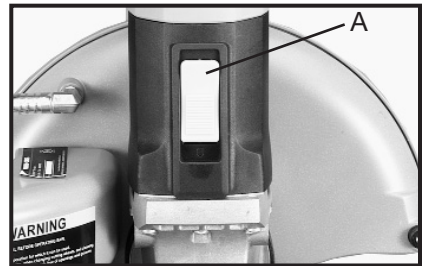

Fig. 20
2. To stop the machine, press on the upper end of the switch button (A) Fig. 20.